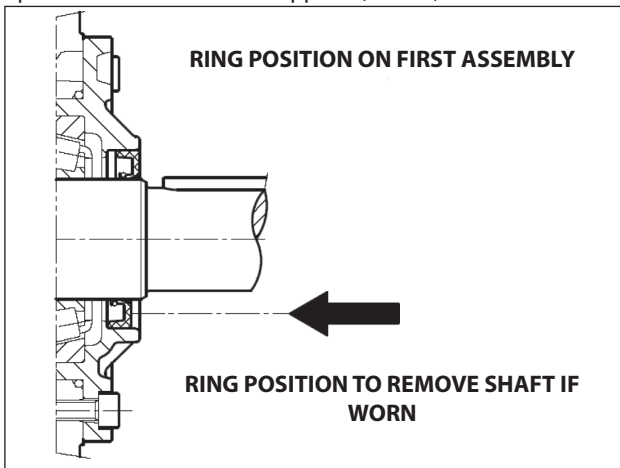

Fig. 7
If replacement is necessary, position the new ring using a tool (code 27904500) as shown in Fig. 7.
**If the pump shaft shows diametrical wear in the area of contact with the lip seal, in order to prevent the grinding operation, it is possible to reposition the ring in abutment with the cover as shown in Fig. 7.**